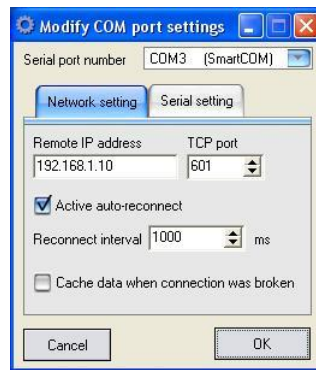
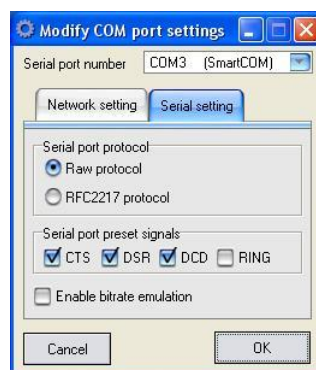

Fig 55. Network setting
Fig 56. Serial setting
3. Modify Setting: User can modify Network setting and Serial setting of COM port settings as Fig 55. and Fig 56.